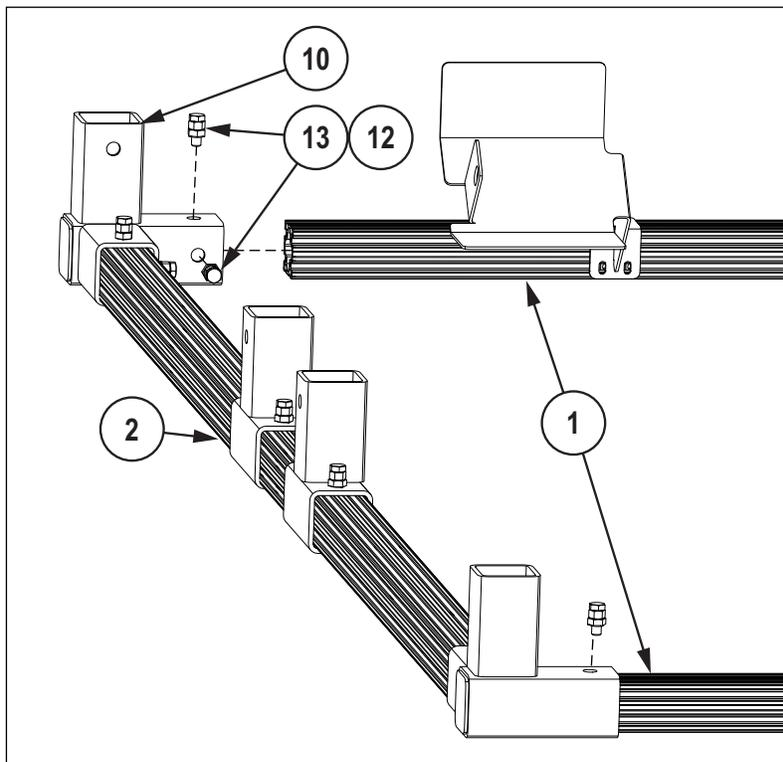

Figure 3-6. T-Mount Side Frame Installation
3. Attach one long bar to each three-way connector (Pt.10) as in Figure 3-6.